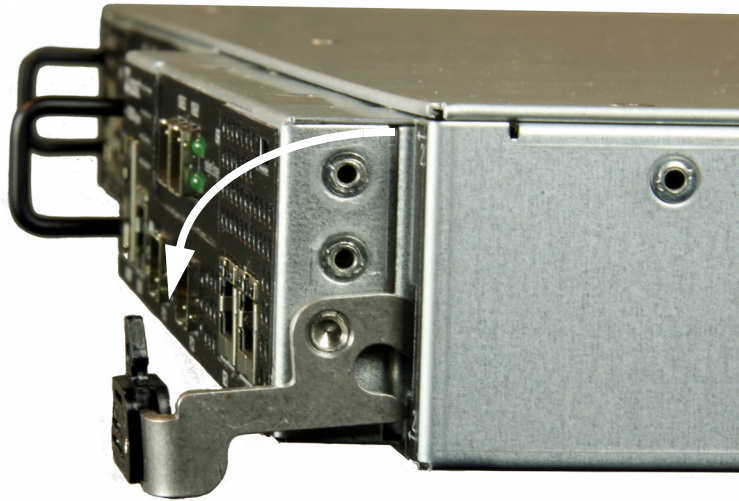

**Figure 6-3 Unlatching the Lever on the New Blade**
1. Unlatch the lever on the new blade prior to inserting it into the chassis, as shown in Figure 6-3.